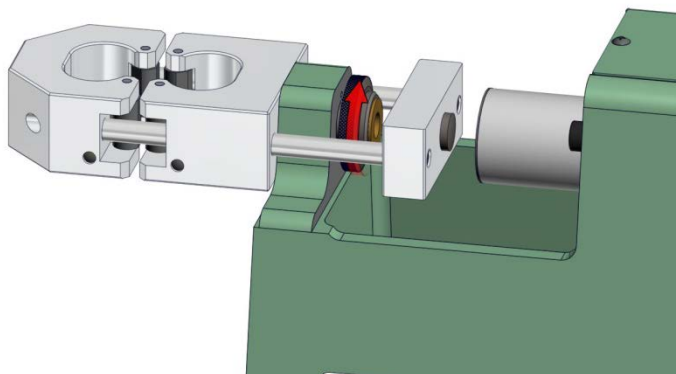

Figure 5.5.3
3. Replace the large Knurled Knob on the large set screw of the Cold Tensile Strength Accessory on the opposite side of the Base extremity. See Figure 5.5.3 below.